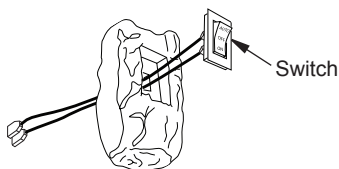

Figure 22 - Installing AUTO/OFF/ON Switch
1. Slip wires of switch assembly through hole in center of log (see Figure 22).